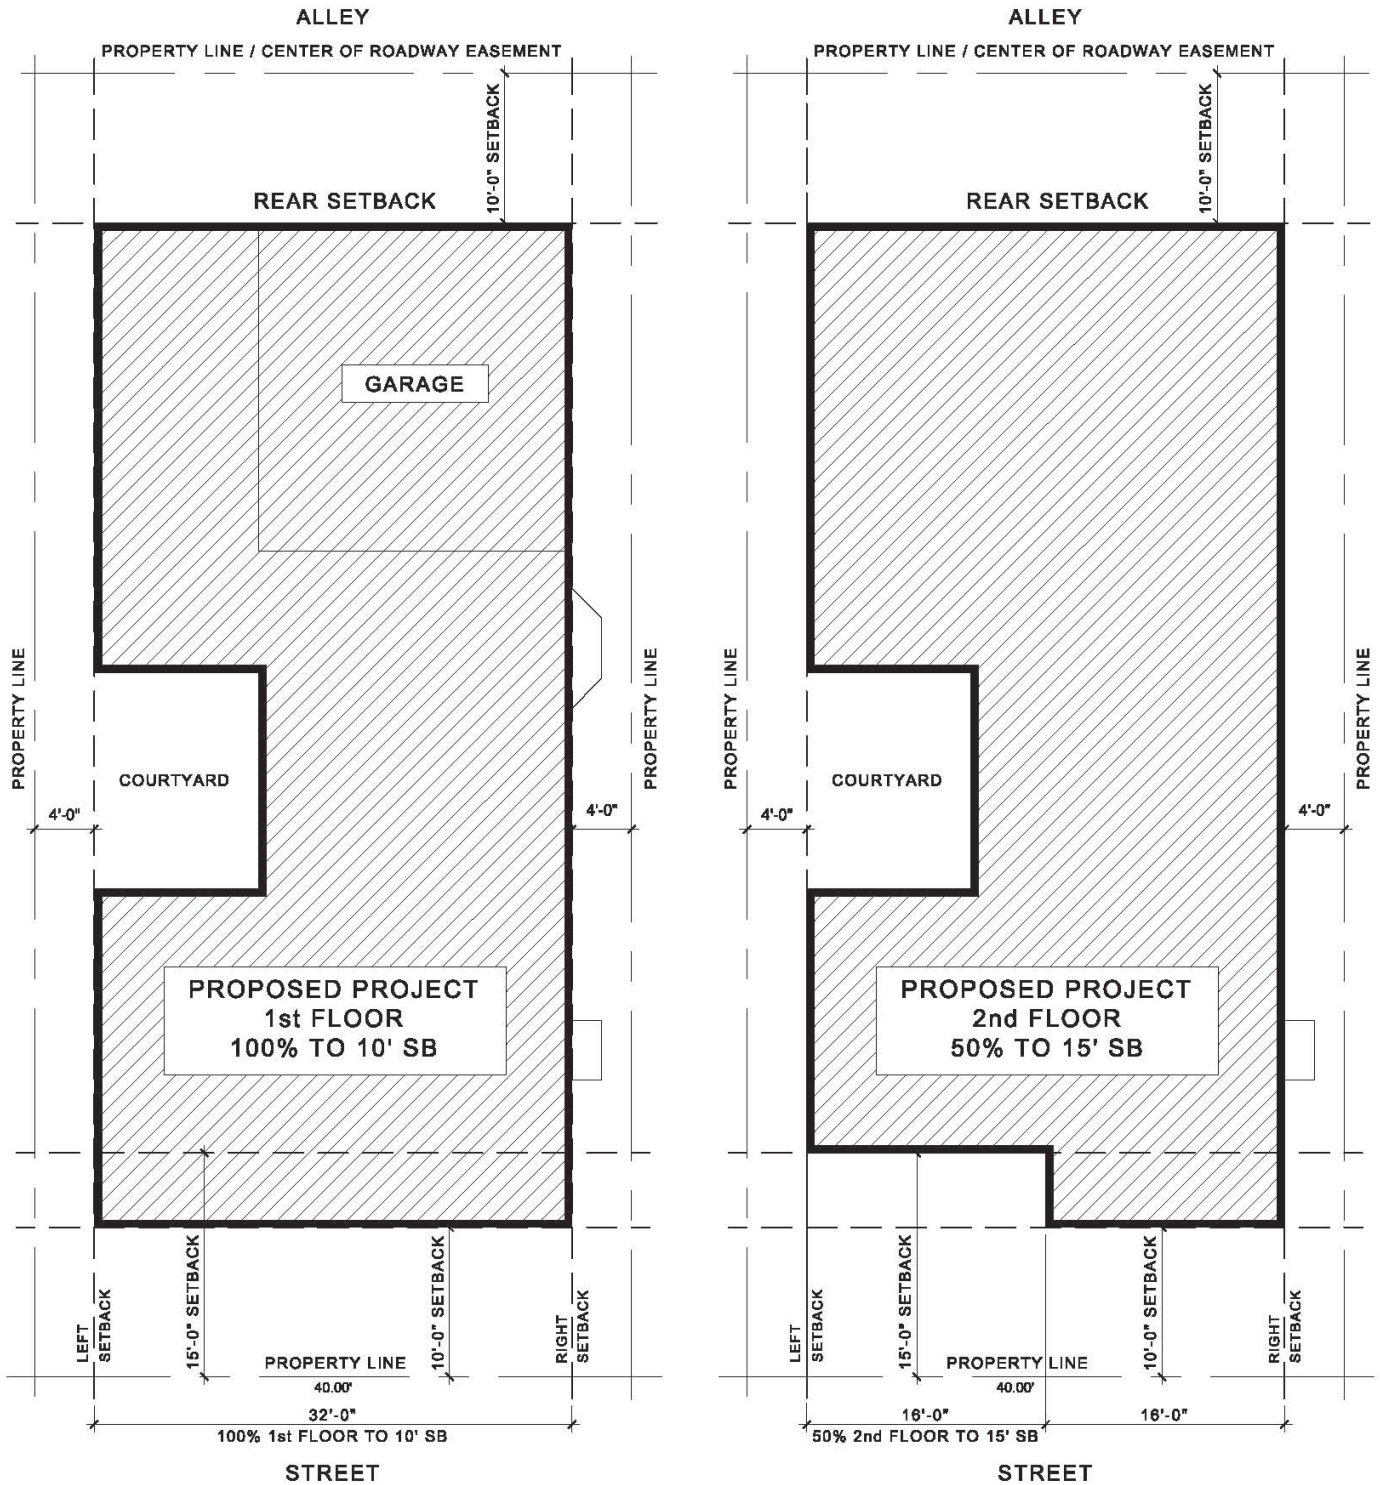

Figure 3
- 100% of the first floor front facade/elevation permitted to the ten (10') foot minimum front setback or easement (zero setback Lots #1-11, Tract 3277) and 50% of the second floor required to be setback a minimum of fifteen (15') feet from property line or easement. (see Fig. 3)
C.4.1 STANDARD LOT DIAGRAMS: SECTION 3.2 TEN (10') FOOT SETBACKS - FIGURE 3